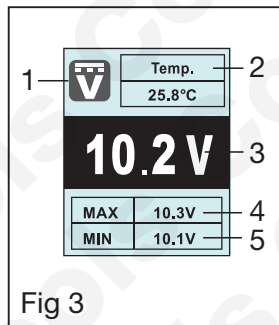
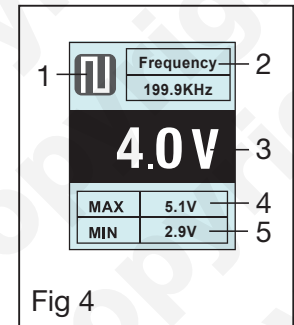

Fig 3
Fig 4
- Press the **MODE** button (G) to switch function to DC measurement (refer to Figure 3 — DC voltage measurement symbol (1) is displayed).
- Connect the test probe to the positive and the auxiliary ground (earth) clip (K) to the negative of the test object or circuit.
- Read the voltage value (3) from the screen.
- Test probe (D) includes a built-in thermocouple for temperature testing.
- Temperature of object can also be read by fitting the thermocouple accessory (N).
- Press the **MODE** button (G) to switch function to frequency & voltage measurement (refer to Figure 4).
- Read the frequency value (2) from the screen.
- Average voltage value (3) is displayed.
- Maximum voltage (4) and minimum voltage (5) are displayed.